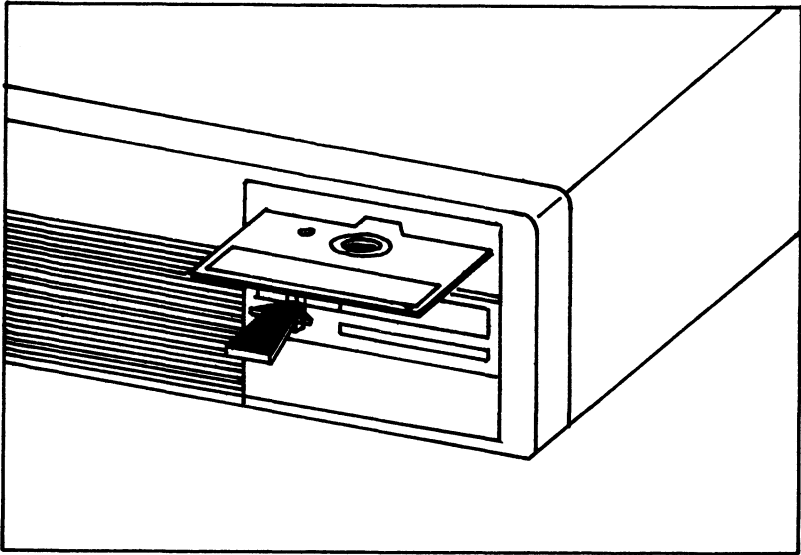

Figure 6-2. Cleaning Diskette Insertion Orientation
2. Prepare the cleaning diskette as instructed by the manufacturer and insert it into the drive to be cleaned. Make sure to orient the diskette with the facing up, as shown in Figure 6-2.